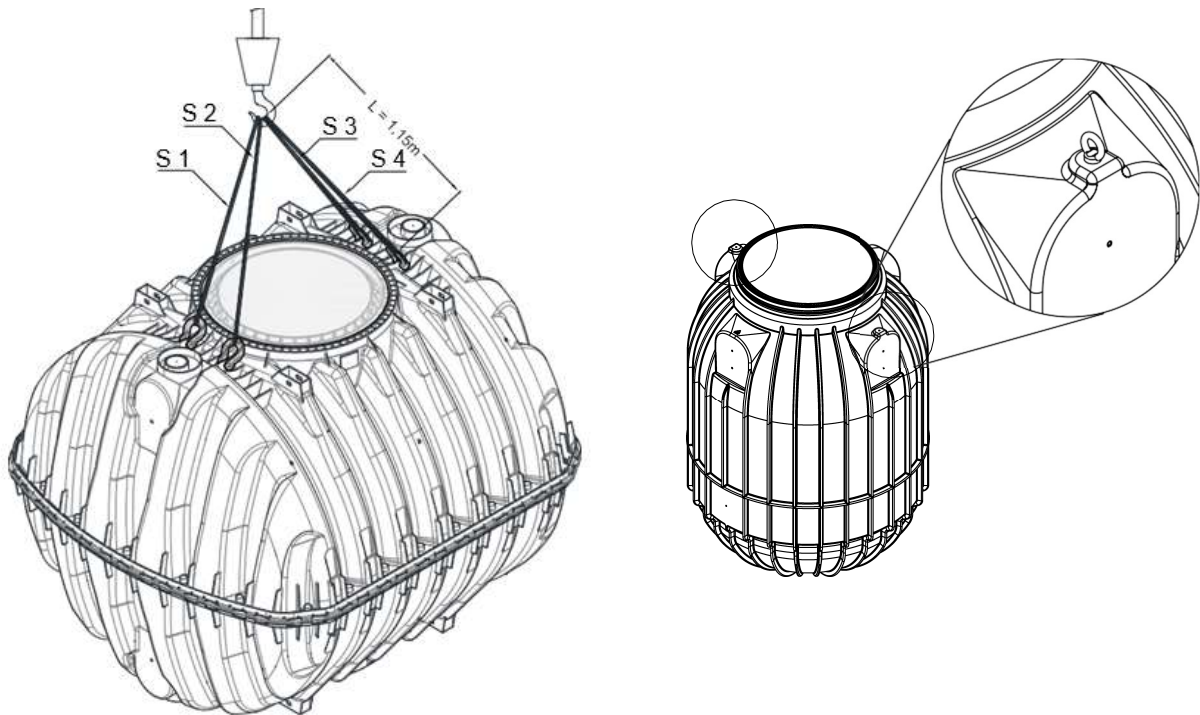

Fig. 1: Lifting points of Carat & Sapphire Tank
- Always use approved lifting points (see Fig. 1).